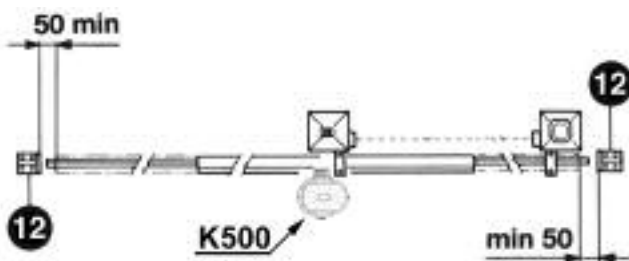

Fig. 2
- Besides the electrical or mechanical limit switches available on the operators, there must be, on both ends of the installation, a fixed mechanical stopper which stop the gate in the unlikely event of ill functioning of limit swithces on the operators. For this reason the fixed mechanical stopper must be of an adequate size to withstand the static and kinetic forces generated by the gate (12) (Fig.2).